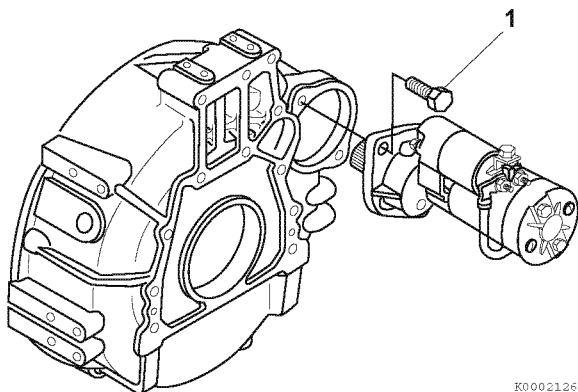

Figure 10-2
3. Remove the starter mounting bolts (Figure 10-2, (1)). Remove the starter motor from the flywheel housing.